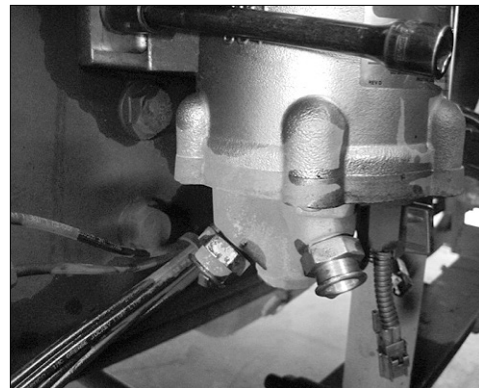

Figure 13: Remove Voss Fitting
**Step 4:** Remove VOSS return fuel fitting from bottom plate of Fuel Pro (Figure 13).